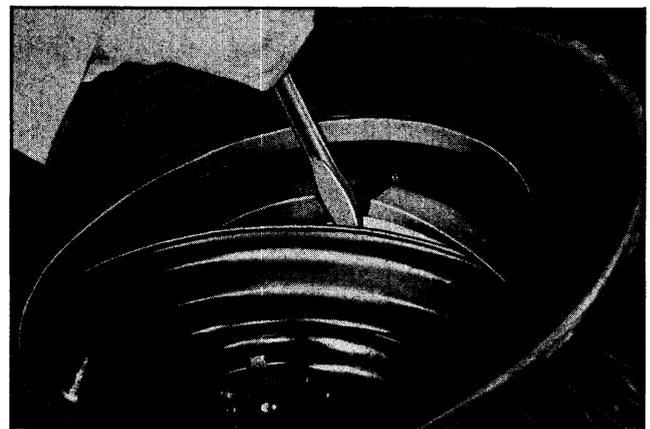

Fig. 4-17 Mounting Tire
2. Carefully mount first bead in usual manner by using tire irons, taking small "bites" around rim, being careful not to injure the tire bead. (See Fig. 4-17)